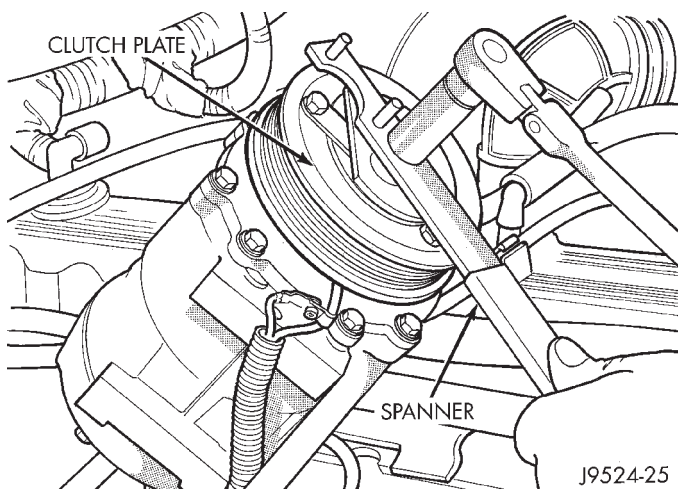

Fig. 18 Clutch Nut Remove
(5) Remove the compressor from the mounting bracket. Support the compressor in the engine compartment while servicing the clutch.
(6) Insert the two pins of the spanner wrench (Special Tool C-4489) into the holes of the clutch plate. Hold the clutch plate stationary and remove the hex nut (Fig. 18).